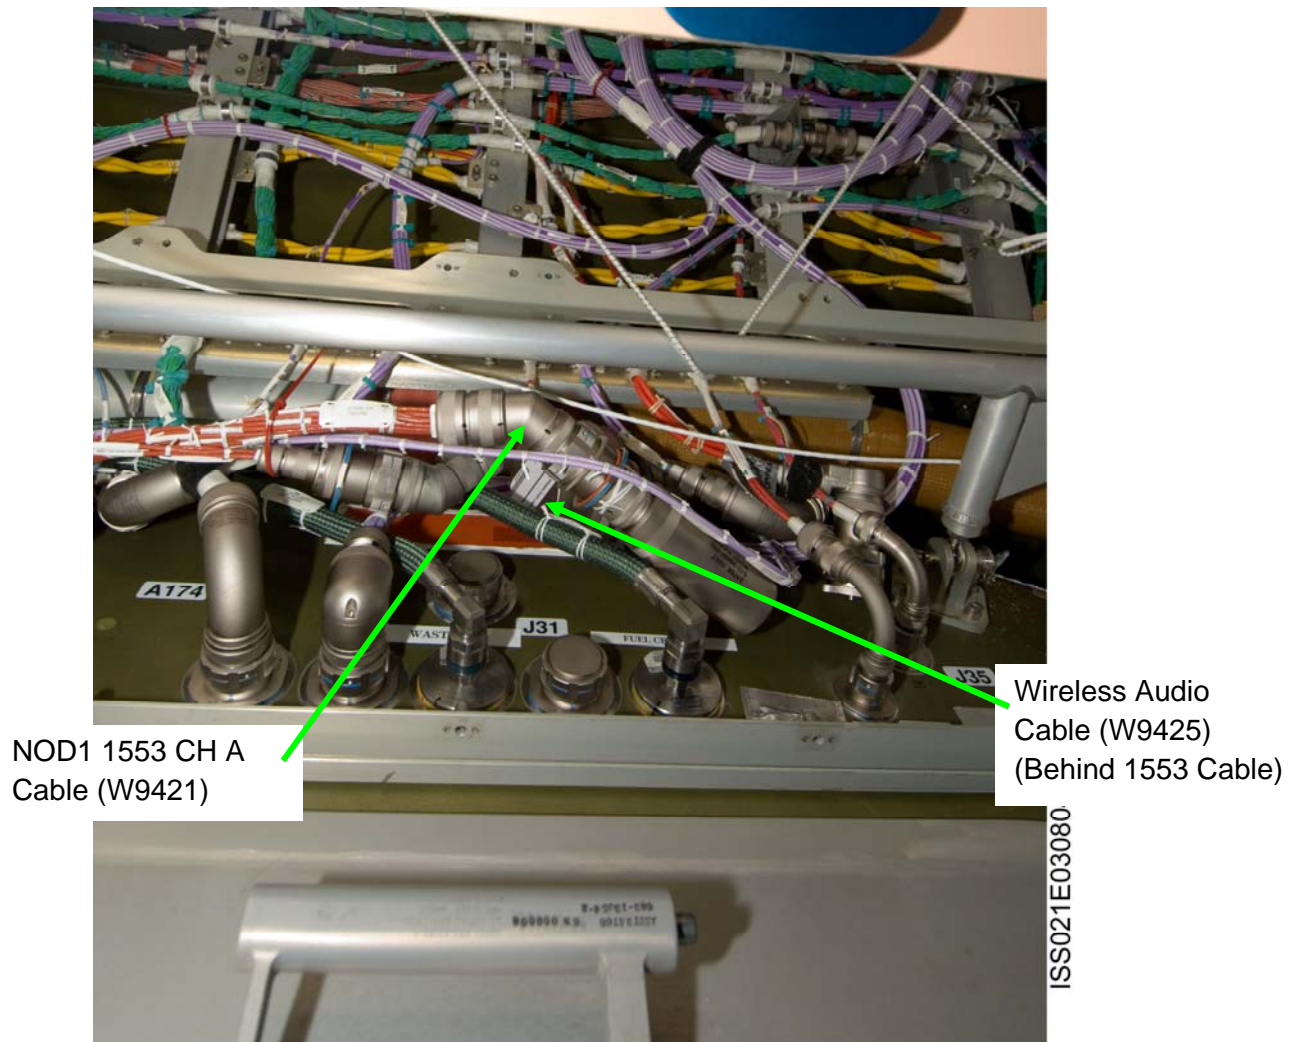

Figure 34. - NOD1 1553 CH A Cable and Wireless Audio Cable After ULF3.
- 28.2 Locate NOD1 1553 CH A Cable (W9421) and NOD1 1553 Termination Plug (W9427) (connected to each other) stowed above Node 1 Port Hatch. Refer to Figure 34.
Refer to Figure 34.